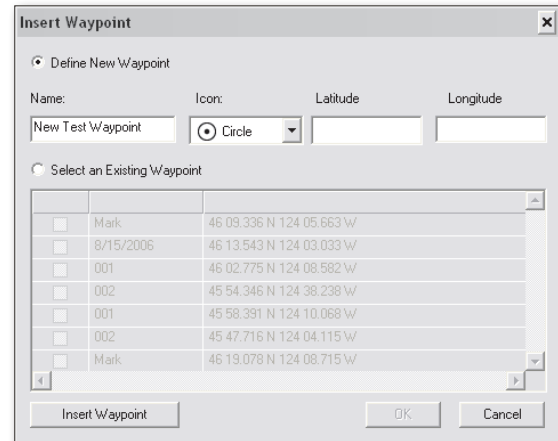

Figure 13.2 - PlanBook - Insert Waypoint Window
4. Click **Insert After** or **Insert Before**. The Insert Waypoint dialog will be displayed (see **Figure 13.2**).